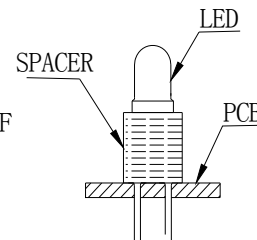

Fig. 4
3. Use stand-offs (Fig. 3) or spacers (Fig. 4) to securely position the LED above the PCB.